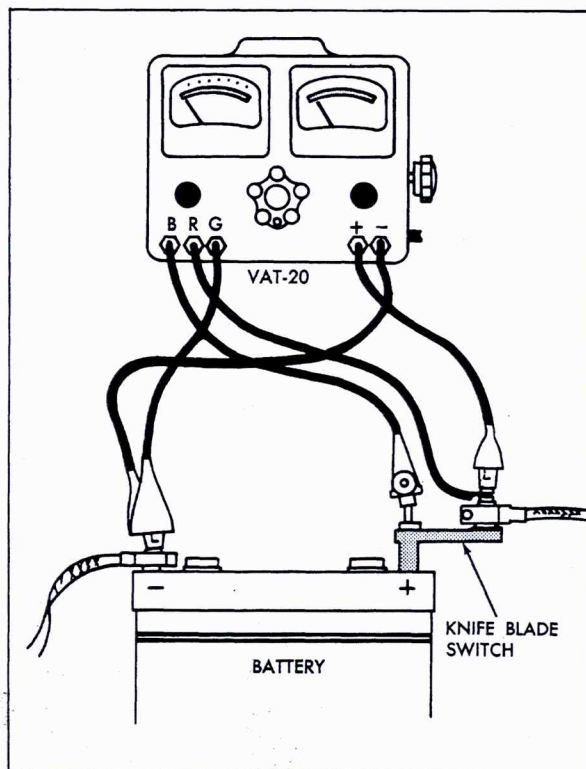

Fig. 6-23 Charging Circuit Test
35. Generator Output Test (Fig. 6-23)
c. Connect BAT lead of ammeter to knife blade switch terminal stud and connect REG lead to positive battery cable on the knife blade switch, Fig. 6-23.
d. Connect ammeter GRD terminal to negative battery terminal, Fig. 6-23.